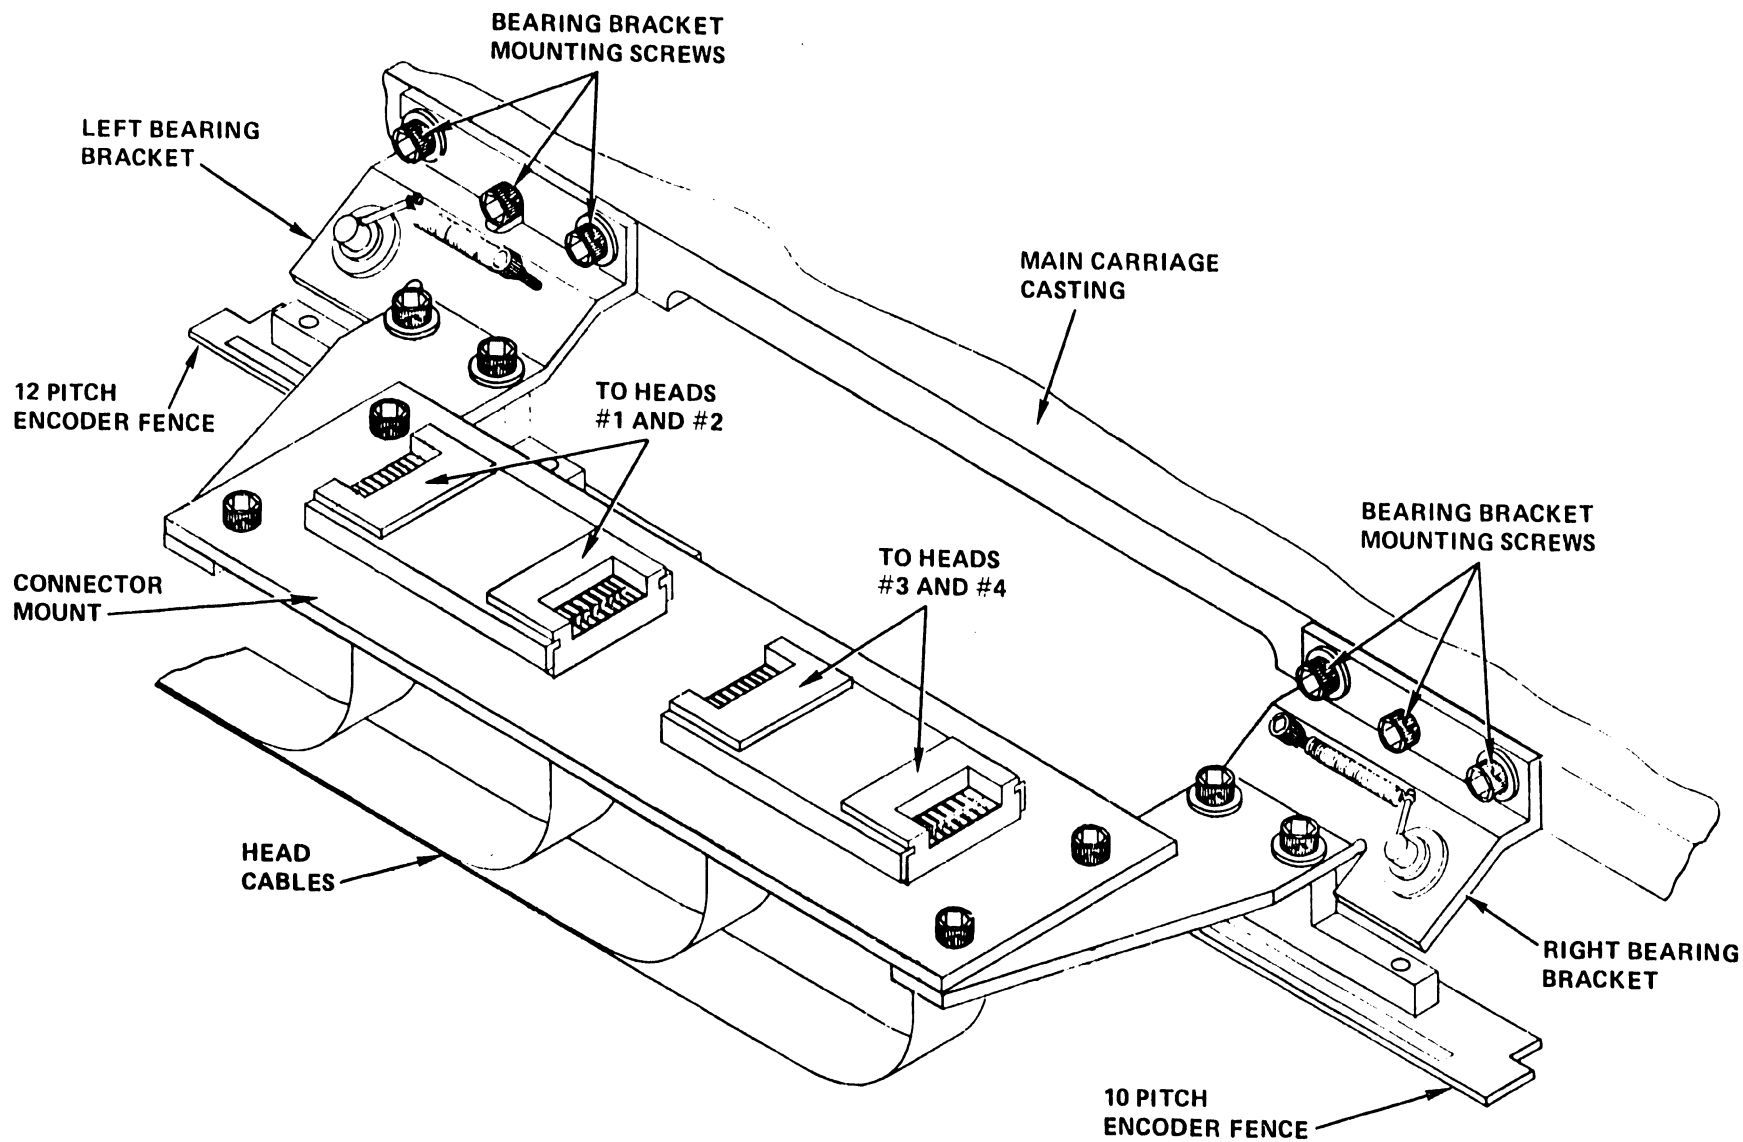

Figure 5-49. Carriage Assembly Removal
10. Move the carriage assembly to the center of its track. Remove the six Phillips screws holding the outboard bearing brackets to the main carriage assembly (3 screws on each bracket). See Figure 5-49. Carefully lift out the bearing bracket/connector mount assembly; take special care not to damage the two encoder fences.